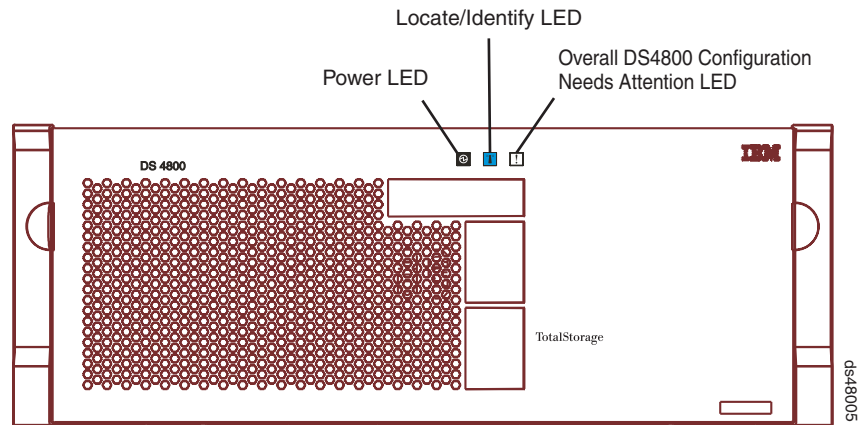

Figure 94. Overall DS4800 Configuration Needs Attention LED on the DS4800 front bezel
2. Locate the storage subsystem that contains the interconnect-battery unit with the failed battery by checking the Overall DS4800 Configuration Needs Attention LED on the front bezel of the storage subsystem. (Figure 94 on page 153 shows the location of the Overall DS4800 Configuration Needs Attention LED on the front bezel.)